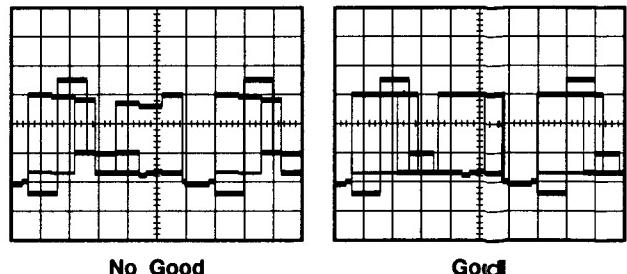

Fig. 5-1-19
- Adjust VR22 so that the Video signal level becomes flat level as shown in Fig. 5-1-19.